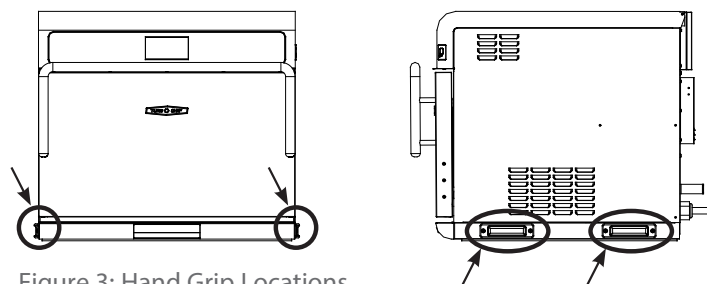

Figure 3: Hand Grip Locations
- ⚠ WARNING:** Lift only by using the provided hand grips (Figure 3, below). Never lift the oven by the door handle.
3. Place hands into grips (see Figure 3) and lift.